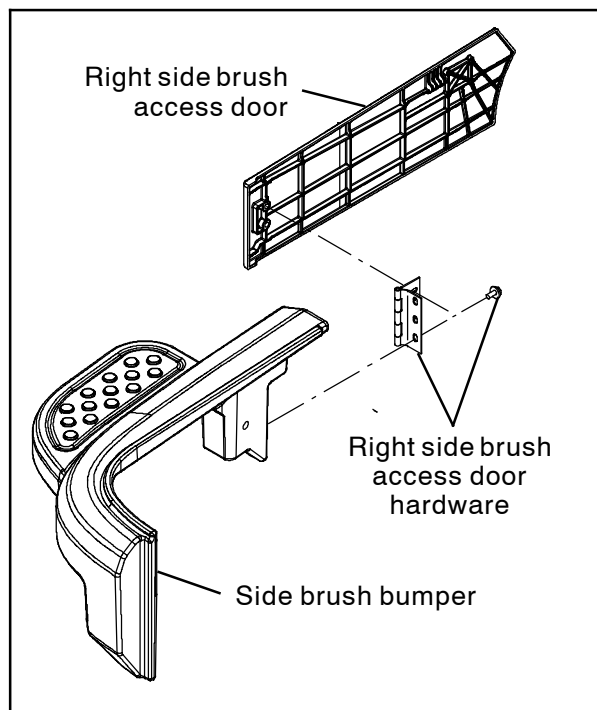

FIG. 31
- 58. Reinstall the right side brush access door onto the side brush bumper. (Fig. 31)